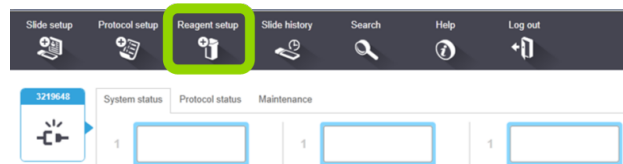

Figure 5: Reagent setup icon
1. Select the **Reagent Setup** icon (see Figure 5).